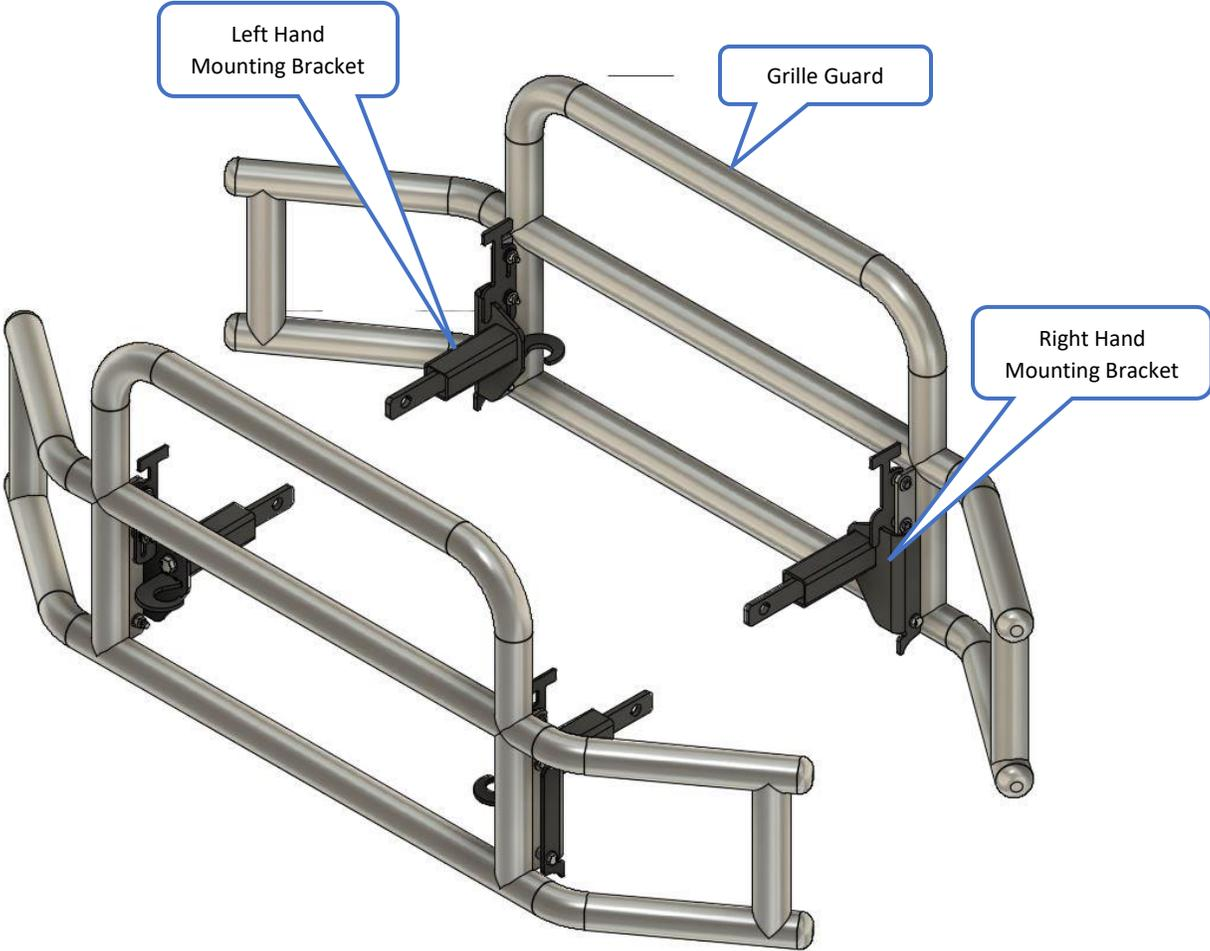

Figure 1 Isometric View
12. Orient the left and right-hand mounting brackets on the correct side of the grille guard using Figure 1 as a guide.